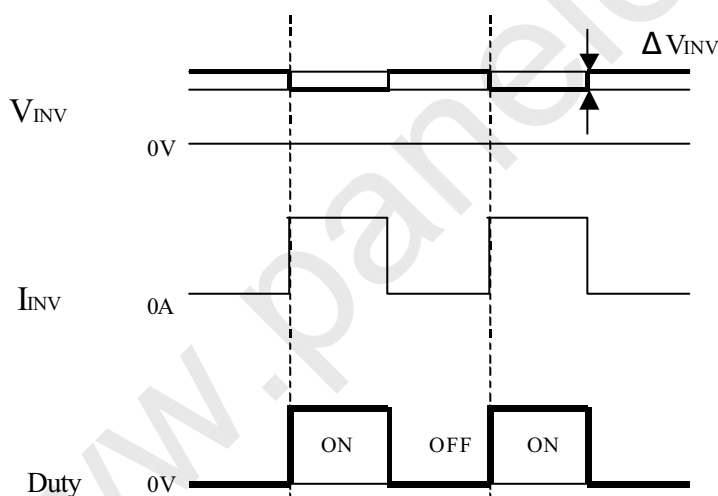

Fig.4 Brightness control voltage.
- Brightness control voltage is switched for “ON” and “OFF”, as shown in Fig.4. Voltage difference generated by this switching, ΔV_{INV} , may affect a sound output, etc. when the power supply is shared between the inverter and its surrounding circuit. So, separate the power supply of the inverter circuit with the one of its surrounding circuit.